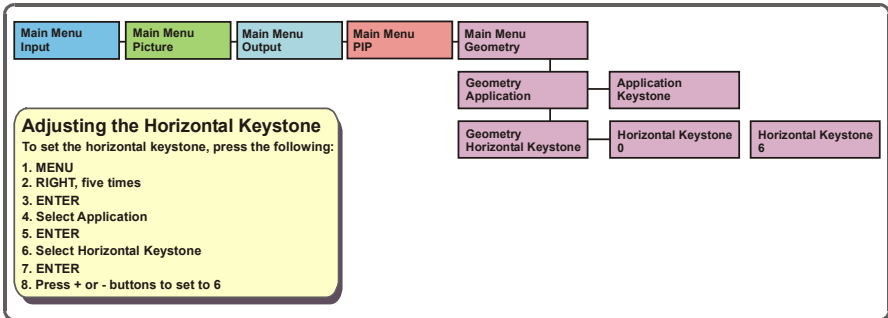

Figure 21: Example of How to Use the LCD Display
To keep the picture rectangular, Figure 21 illustrates how to adjust the Keystone via the OSD Menu
2. Press the appropriate front panel OSD buttons (as defined in Figure 21).